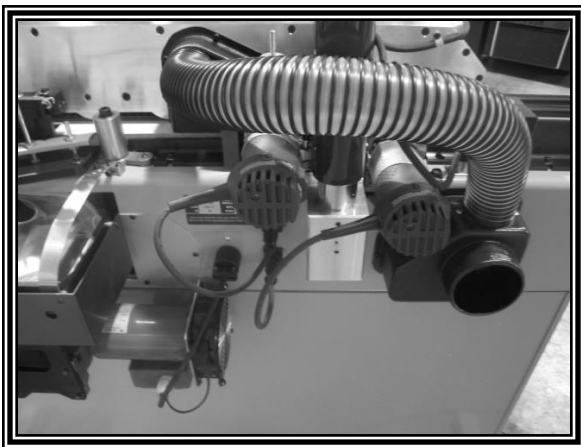

FIGURE 5
6. Connect dust collector hose to 4" connection at rear of machine (**FIGURES 5 & 6**).